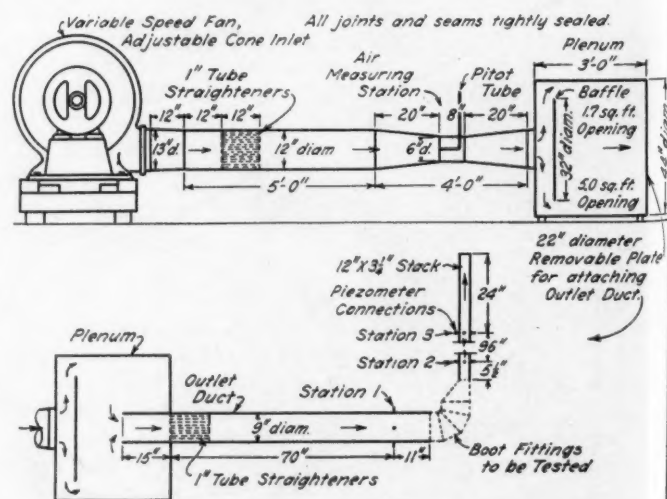

FIG. 10 DIAGRAM OF LABORATORY PLANT FOR DETERMINATION OF PRESSURE LOSSES IN BOOTS
2. *Description of Plant.*—Since with the same flow of air the resistance of a given fitting is the same irrespective as to whether the static pressure is positive or negative, in order to obtain data over a wide range of air velocities, and to facilitate control, the boot fittings were all tested on the outlet side of a fan under conditions of positive pressure. A line diagram of the test apparatus used is shown in Fig. 10. The quantity of air delivered by the fan was controlled by regulation of the fan speed and by adjustment of the position of the damper at the fan inlet. The air was passed by a Pitot tube inserted in a constricted section which served as a measuring station, and after being discharged against a baffle in the plenum chamber, was admitted to the test duct section. The boot fittings were tested with a wall stack connected to the outlet of the boot. Pressure measurements, made by means of a piezometer ring, were obtained at stations 1, 2 and 3 as indicated in Fig. 10.